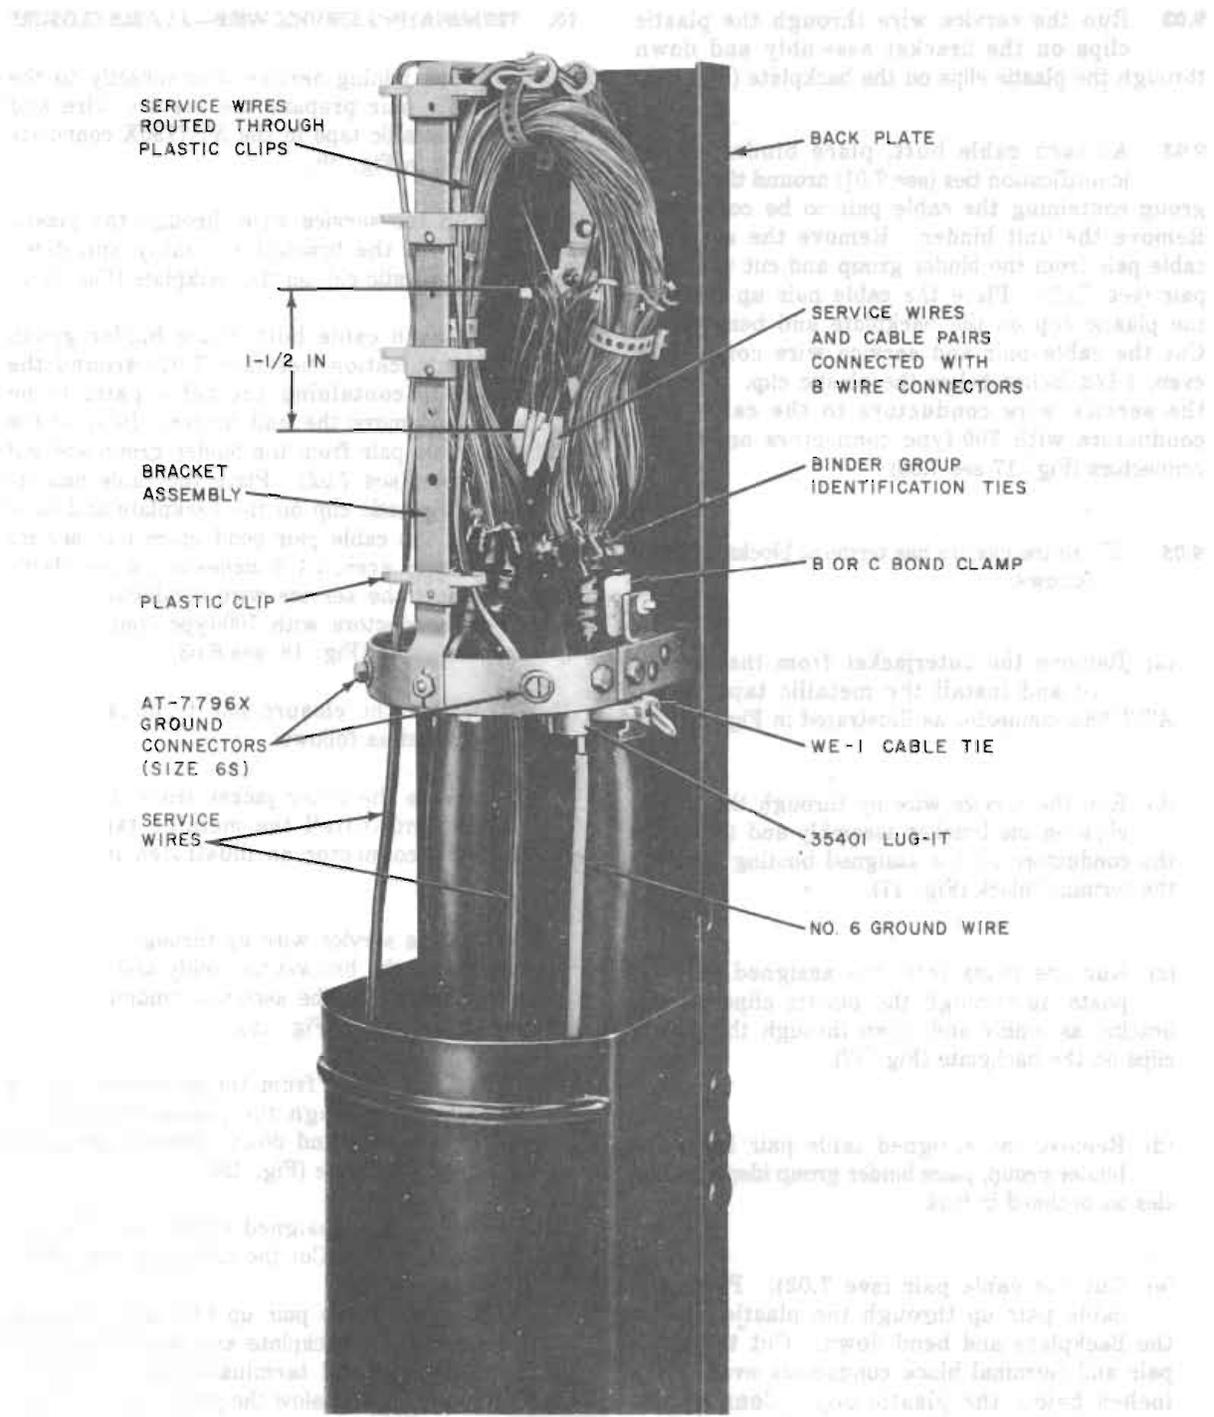

Fig. 16—Service Wire Installed—E Cable Closure (Nonprotected)
**9.03** Run the service wire through the plastic clips on the bracket assembly and down through the plastic clips on the backplate (Fig. 16).